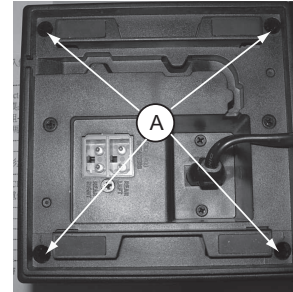

Figure 1
- 1) Loosen 4 screws "A" on the bottom and remove the front & top Cover by lifting the panel upwards before sliding it from the set as shown in figure 1